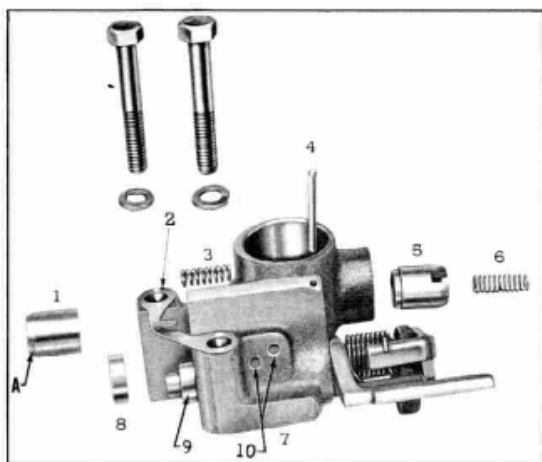

Figure 13
1. Remove the parking blocker piston (1) Figure 13. It may be necessary to tap the bracket assembly on the palm of the hand to remove the piston.
2. Round off head of stop pin (4) with file and pull pin out of bracket.
3. Remove the reverse blocker piston (5) and spring (6) from bracket.
2. Install the parking blocker piston (1), Figure 13, into rear of parking bracket assembly (7), (chamfered end (A) of piston exposed.)
3. Install the reverse blocker piston (5) with slotted end out. Install the reverse blocker piston spring (6) in the reverse blocker piston. Hold piston in with a screw driver when installing the stop pin (4).